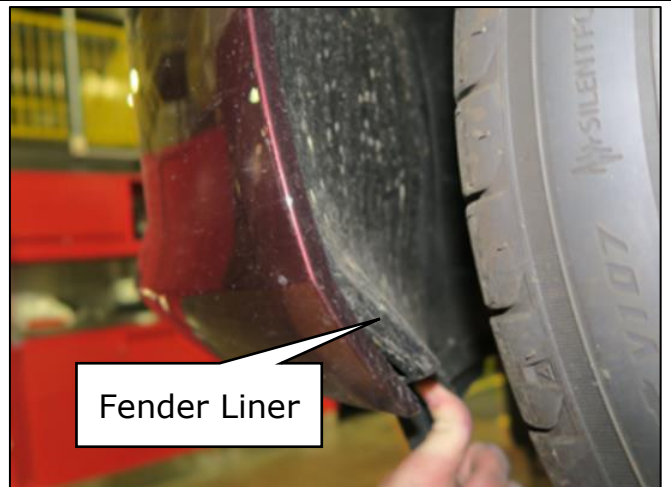

Figure 16
13. Carefully move the lower portion of the inner fender liner as shown in Figure 16.